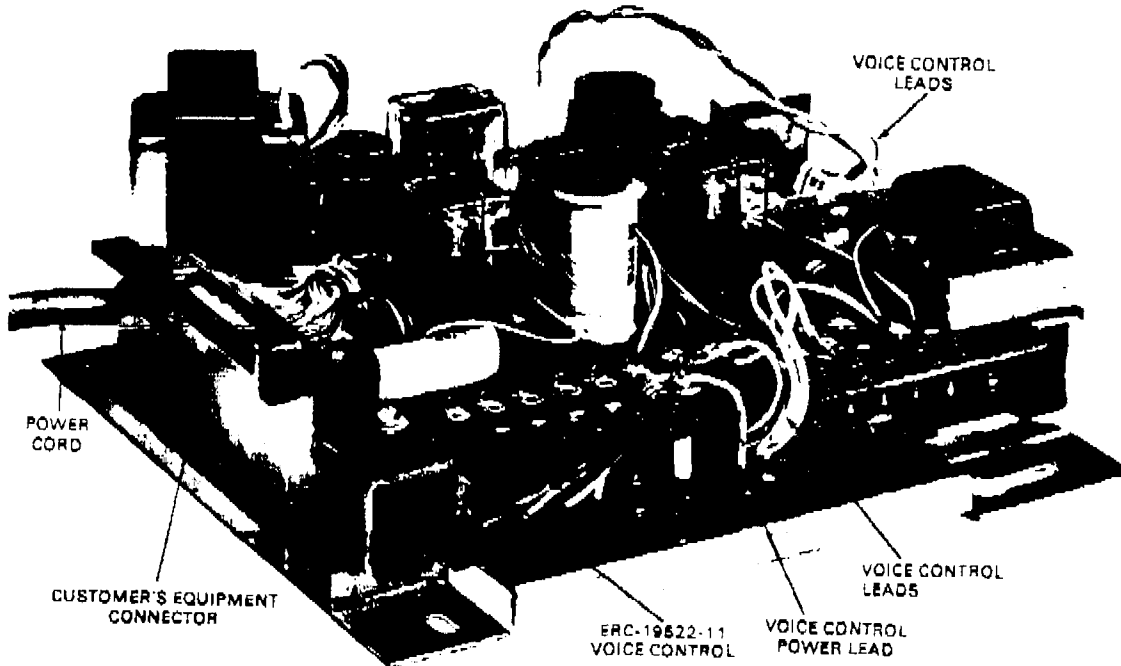

Fig. 4 — ERC-19522-21 & -22 Recorder Coupler, Cover Removed
2.04 The ERC-19522-22 recorder coupler consists of the -21 recorder coupler with the -11 voice control factory installed (Fig. 4).